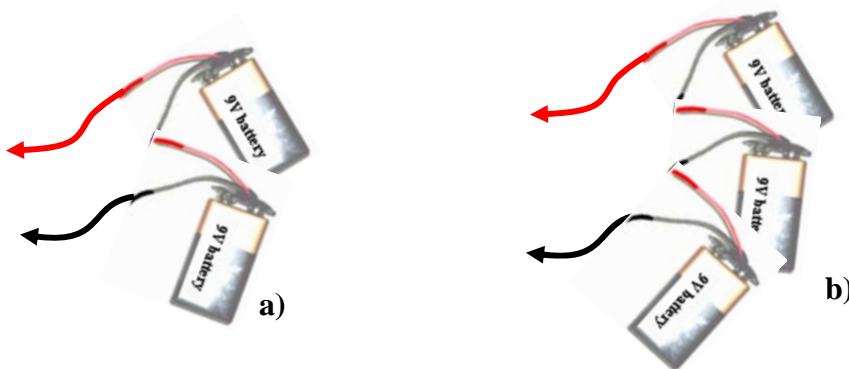

Fig. 6. a) Two batteries connected in series to form an approx. 18V source.
b) Now repeat the experiment, but applying a larger voltage across the resistor. To do this, replace the single battery by two batteries joined in series, see fig. 6 a). Record your data.